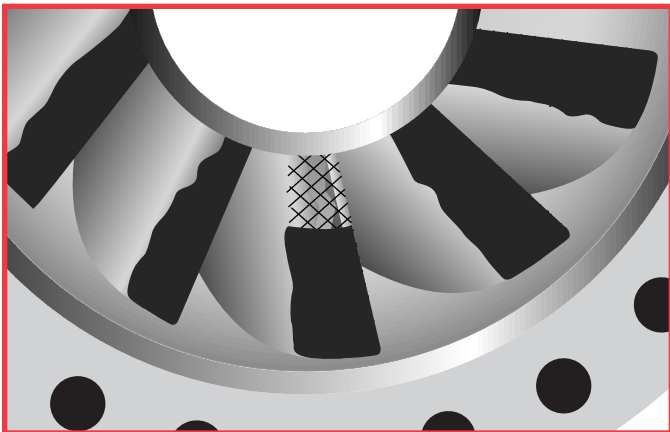

Figure 43. Coat expanded metal with epoxy and smooth out finish.
3. **Apply epoxy** over the expanded metal, forcing the epoxy through the mesh, being careful to avoid air entrapment. Smooth the finish with a thin plastic or metal applicator. (See figure 43)